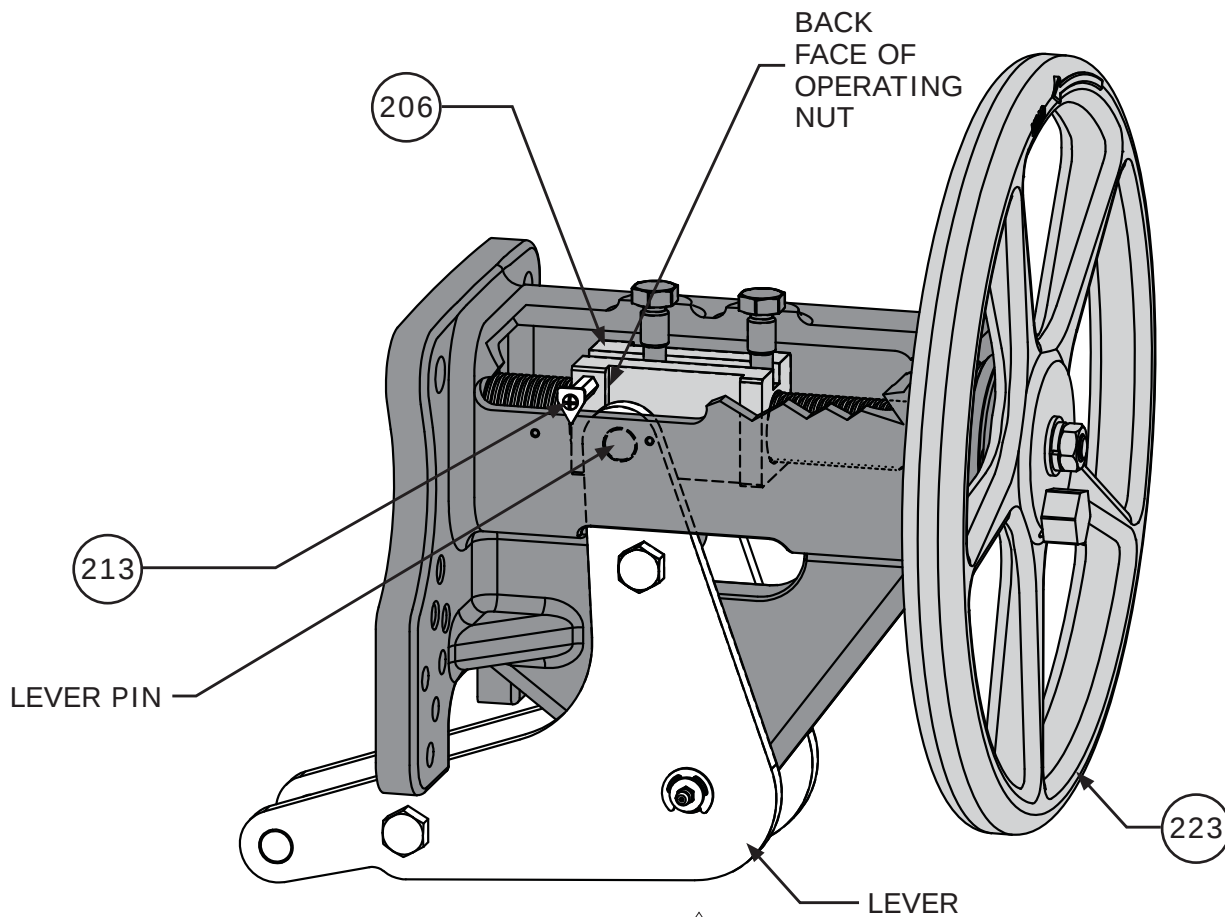

Figure 50 DFC Neutral Position Adjustment Diagram
- 1 Rotate the handwheel (Key 223) either left or right until the lever pin that runs in the groove track of the operating nut (Key 206) comes into contact with the back face of the operating nut. The lever pin should make contact with the face of the operating nut but not move it, as soon as tension on the handwheel can be felt stop rotating the handwheel. Refer to Figure 50.